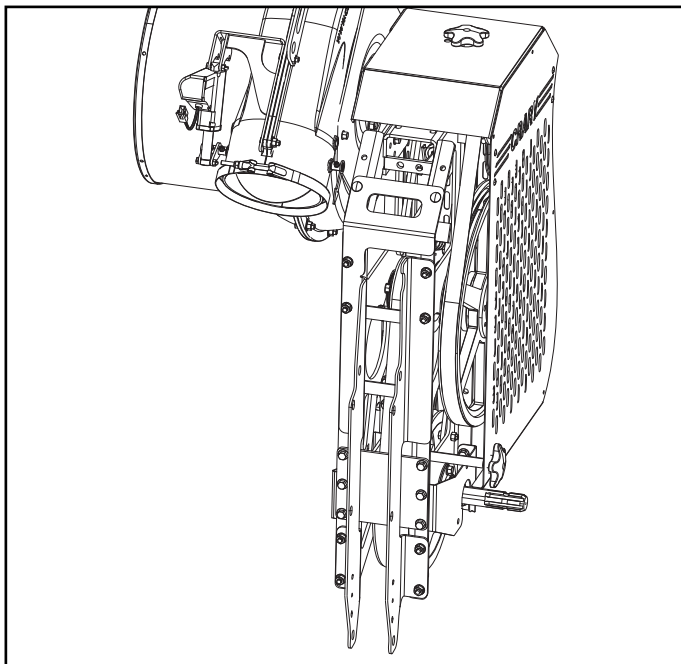

Figure 6: LH & RH mount brackets attached to Belt Drive Assembly, from front left side
6. Attach the LH mount bracket to the belt drive/fan assembly with four 3/8" x 1" carriage bolts and nuts and then attach the RH mount bracket to the belt drive/fan assembly with six 3/8" x 1" carriage bolts and nuts, Figure 6. Torque 3/8" hardware to 30 ft-lbs and torque 1/2" hardware to 75 ft-lbs.